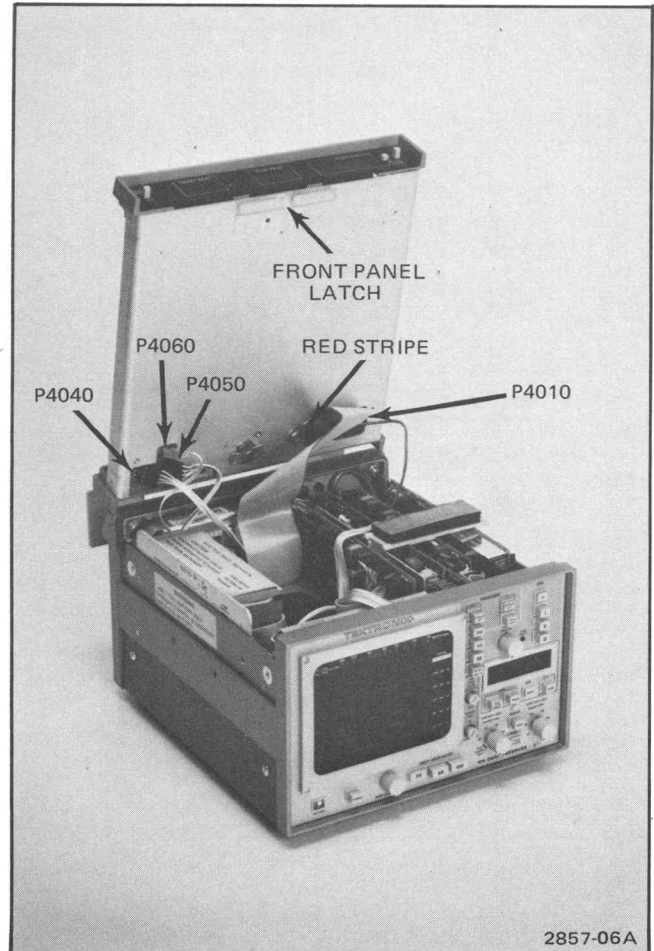

Figure 8-1. Digital Readout Module removal and replacement.
1. Install 401 Digital Readout Module as follows: (Refer to Fig. 8-1)